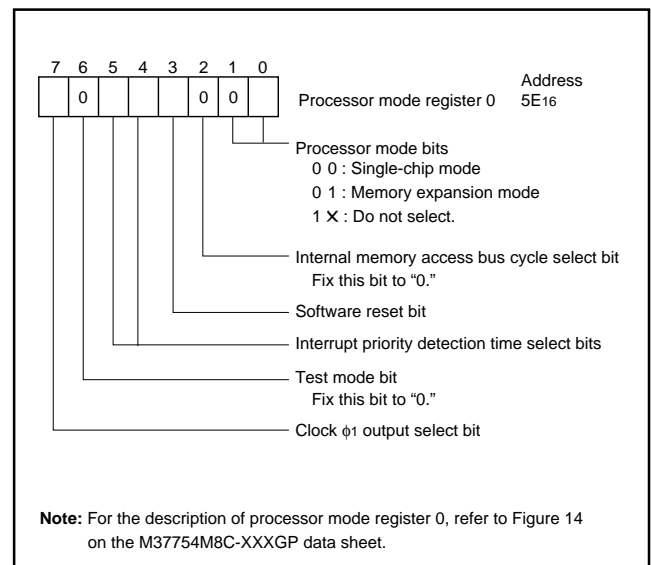

Fig. 23 Processor mode register 0 bit configuration in CPU rewriting mode
Figure 23 shows the processor mode register 0 bit configuration in the CPU reprogramming mode. Set bit 1 to "0" (single-chip or memory expansion mode) in the CPU reprogramming mode. Set bit 2 (internal memory access bus cycle select bit) to "0."
- ① Apply 0 V to the CNVss/VPP pin for reset release.
- ② Set the processor mode register 0 (see Figure 23).
- ③ After CPU reprogramming mode control program is transferred to internal RAM, jump to this control program on RAM. (The following operations are controlled by this control program).
- ④ Set "1" (8-bit length) to data length select flag m.
- ⑤ Set "1" to the CPU reprogramming mode select bit.
- ⑥ Apply VPPH to the CNVss/VPP pin.
- ⑦ Read the CPU reprogramming mode monitor flag to confirm whether the CPU reprogramming mode is valid.
- ⑧ The operation of the flash memory is executed by software-command-writing to the flash command register.